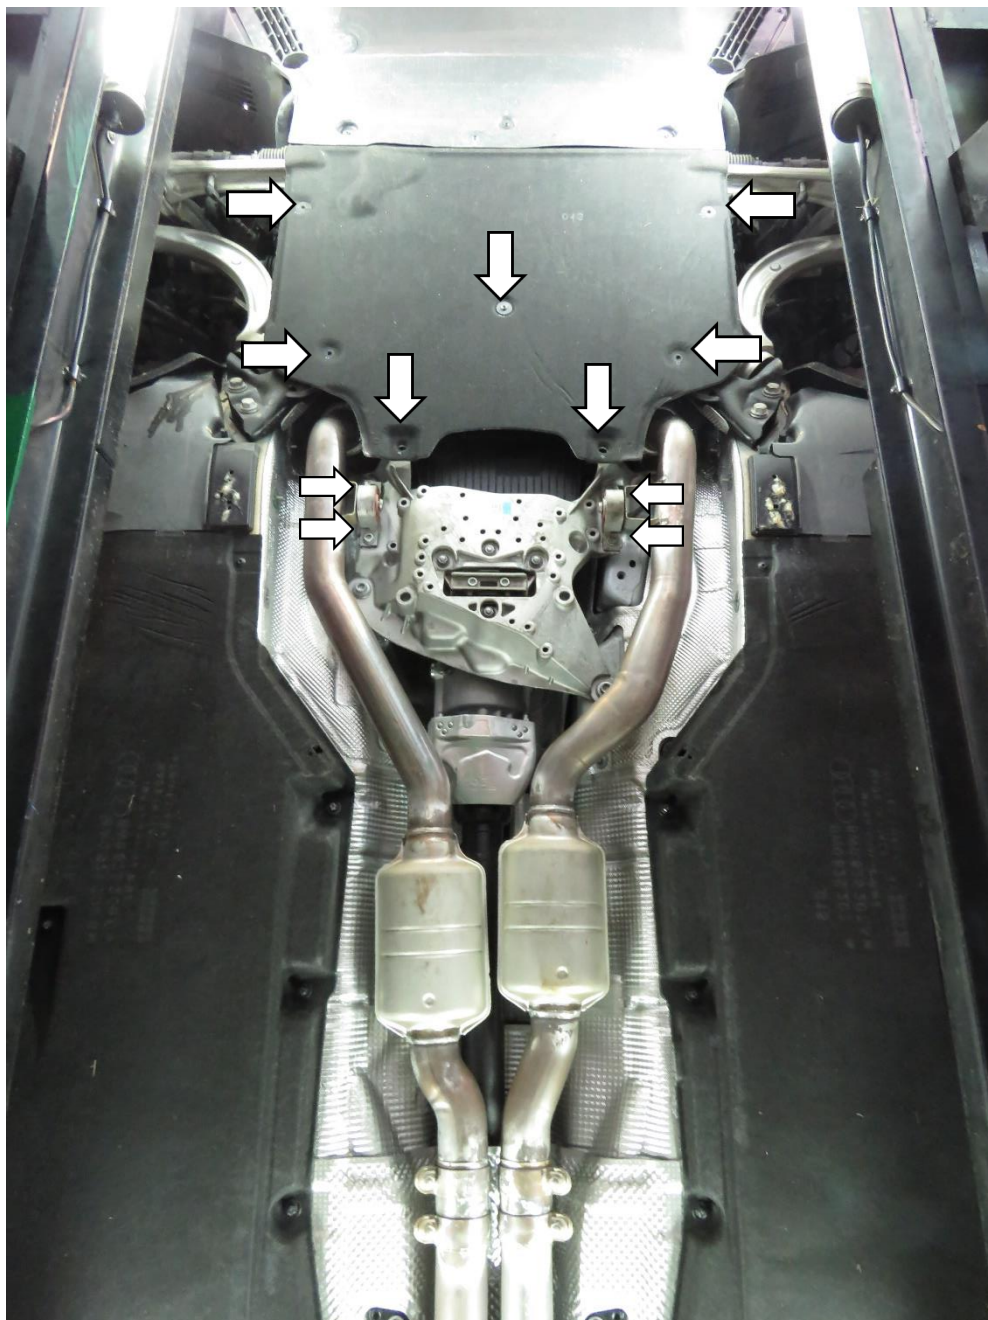

Figure 3
4) Remove front shield and front tube screw. (Figure 3).